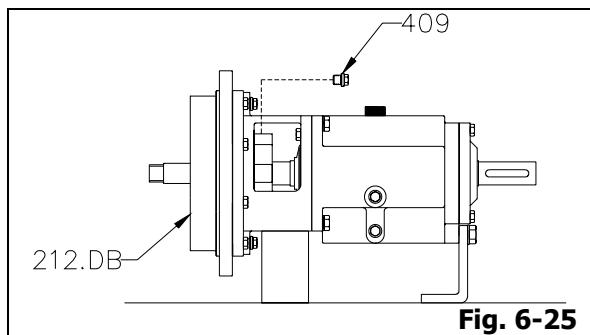

Fig. 6-25
- Remove all connection plugs (409) or/and piping adaptors from stuffing box cover (212.DB) (Fig. 6-25).